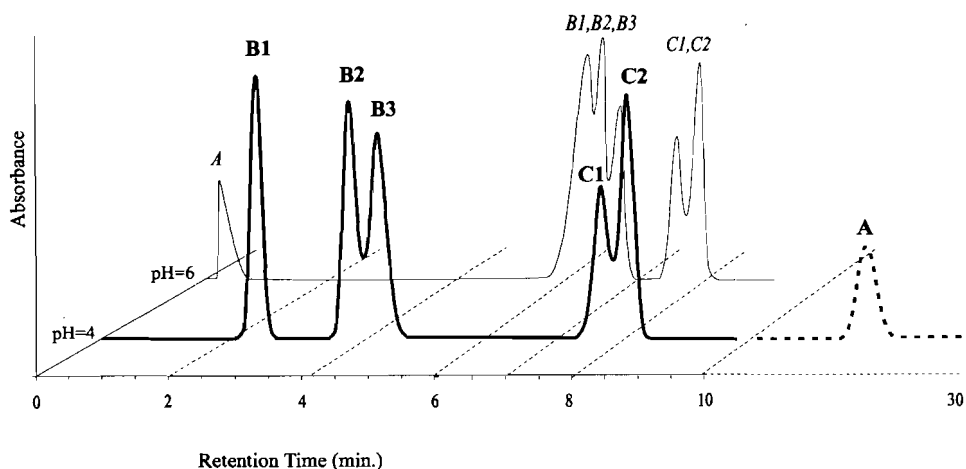

Figure 5-9. *Top* chromatogram: pH 6; *bottom* chromatogram: pH 4.
Step 3. Now let us determine if ionizable components are present. For example, decrease the pH by adding 0.3 ml of phosphoric acid to 1 l HPLC grade water, pH ~4.0. Note, that you should actually measure the resulting pH even for preliminary experiments. Figure 5-9 illustrates the changes in the retention of a model mixture at pH 4.0.
- It is possible that the acidic or basic nature of components C1 and C2 were not manifested by lowering the pH from 6 to 4. For example, this would occur for an acidic component with a pK_a of 2 or lower or for a basic component with a pK_a of 8 or higher. Figure 5-10a shows theoretical curves of retention factor vs pH for these acidic and basic compounds. This could also occur for acidic compounds with a very high pK_a and bases with a very low pK_a . Figure 5-10b shows these theoretical curves. The retention factors for these theoretical acids and bases in Fig. 5-10a and b are very similar in the pH range 4–6. It can be seen in Fig. 5-9 that, when the pH was lowered from 6 to 4, this did not provide any specific information on the nature of the compounds.